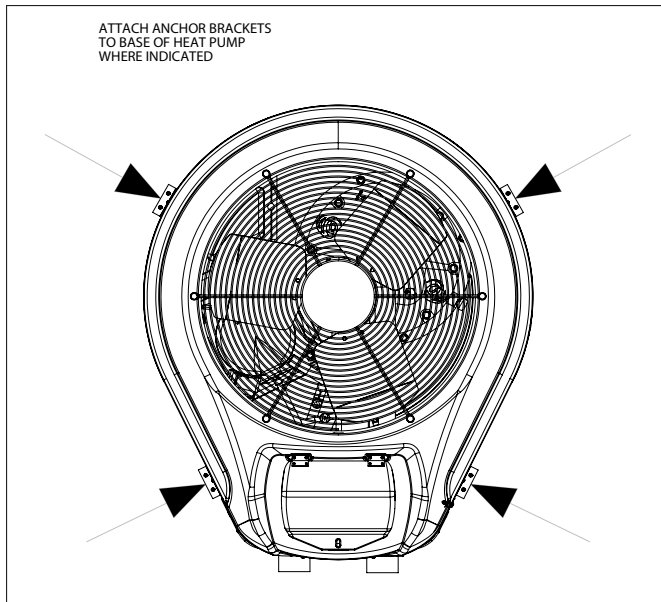

Figure 2. Anchor Clamp Positions
2. Place the clamps at the base of the heat pump in the locations indicated in Figure 2.